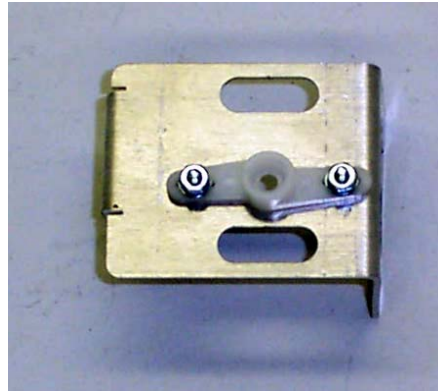

Figure 1
1. Start by mounting the servo arm from the standard servo on the bottom of the scanner base as shown in Figure 1. Use #2-56 x 5/16" screw and secure with a washer, lock washer and nut. The middle holes are drilled out to accept the #2 screws.